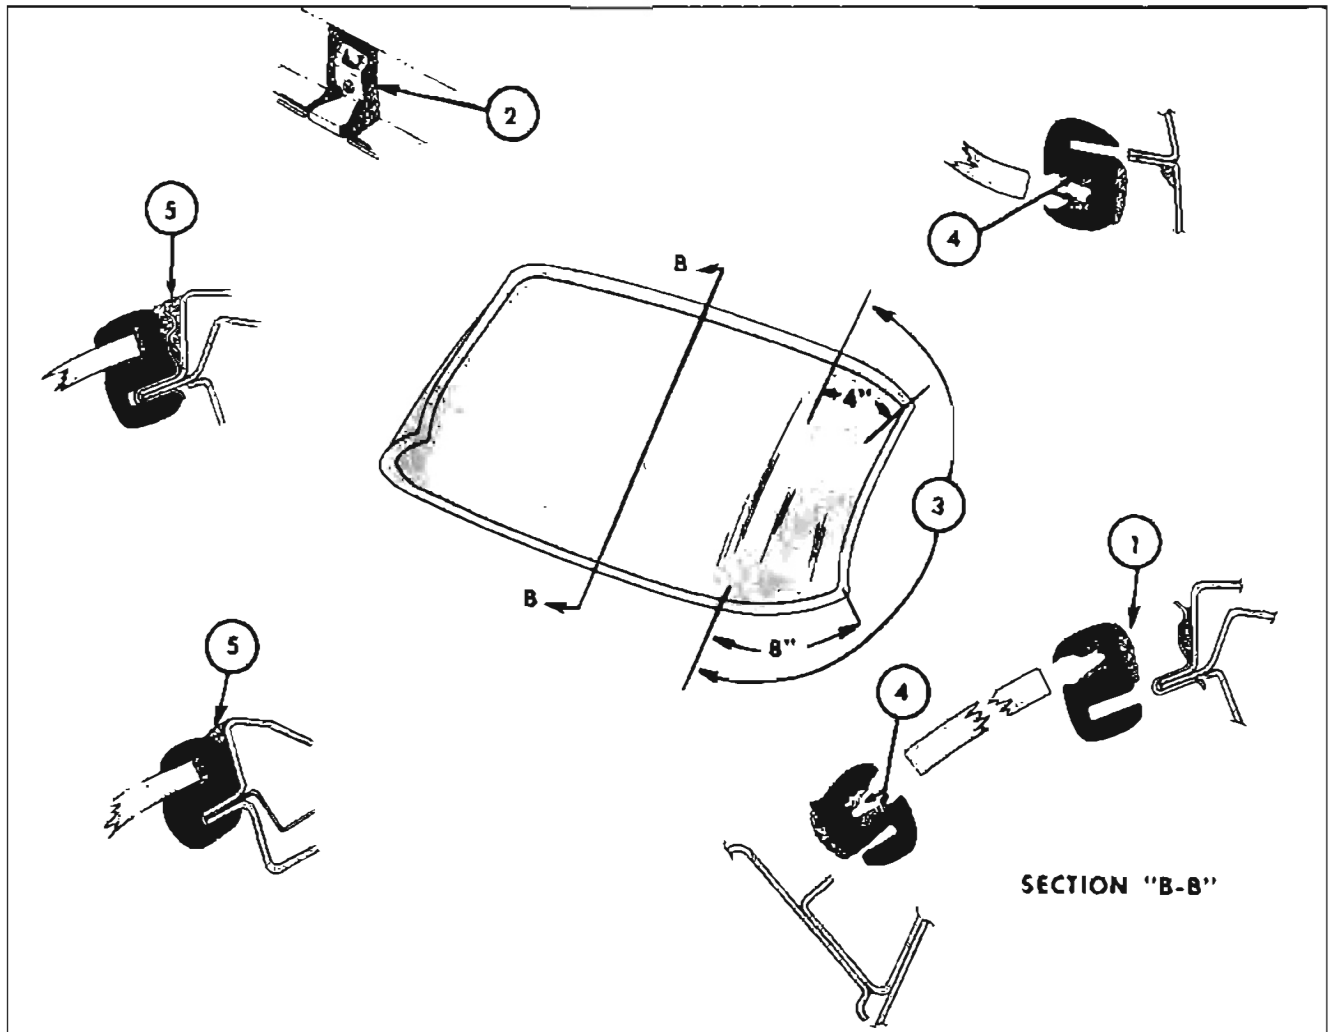

Fig. 16-9 Windshield Sealing
4. Apply a ribbon of medium-bodied sealer completely around base of rubber channel. (View 1, Fig. 16-9)
5. Inspect condition of each molding clip, install new clips where necessary, make certain clips are properly sealed to pinchweld and body (View 2, Fig. 16-9) except 67 styles.
9. Using a pressure type applicator, seal inner and outer lips of rubber channel to glass with weatherstrip adhesive. (View 4, Fig. 16-9) Seals are to extend completely around rubber channel.
11. On outside of windshield, apply medium-bodied sealer between windshield rubber channel and opening across top and sides. (View 5, Fig. 16-9)
5. Using a pressure type applicator, seal inner and outer lips of rubber channel to glass with weatherstrip adhesive. (View 4, Fig. 16-9) Seals are to extend completely around rubber channel.
6. On outside of windshield, apply medium-bodied sealer between windshield rubber channel and opening across top and sides. (View 5, Fig. 16-9)